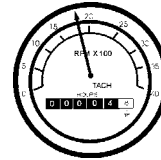

Figure 48. Engine Tachometer Gauge
12. The **tachometer gauge** (Figure 48) will indicate the speed of the engine when the generator is operating. Under normal operating conditions this speed is approximately 1800 RPM's.